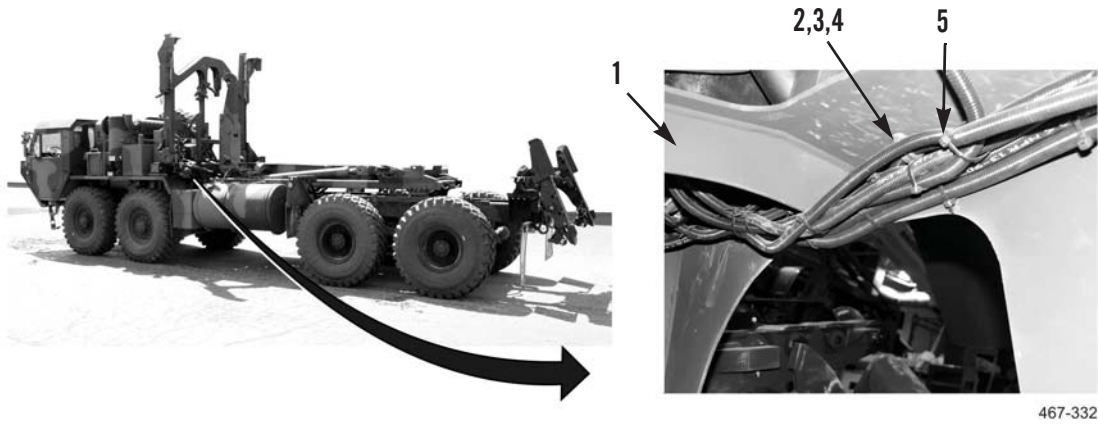

Figure 19. Clamp and Tiedown Strap Installation.
1. Install 13 clamps (Figure 19, Item 4), bolts (Figure 19, Item 3), and nuts (Figure 19, Item 2) on stowage assembly (Figure 19, Item 1).
2. Underneath stowage assembly (Figure 19, Item 1), install new tiedown straps (Figure 19, Item 5) as necessary to secure wiring harnesses to stowage assembly.